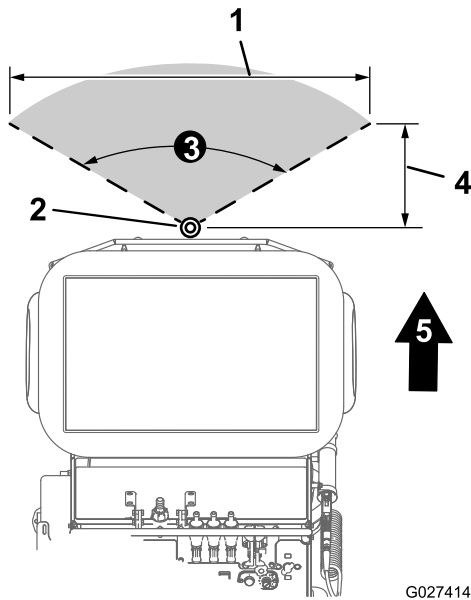

Figure 36
- The narrow-spray pattern (Figure 36) on the machine is **122 cm (48 inches)** wide.